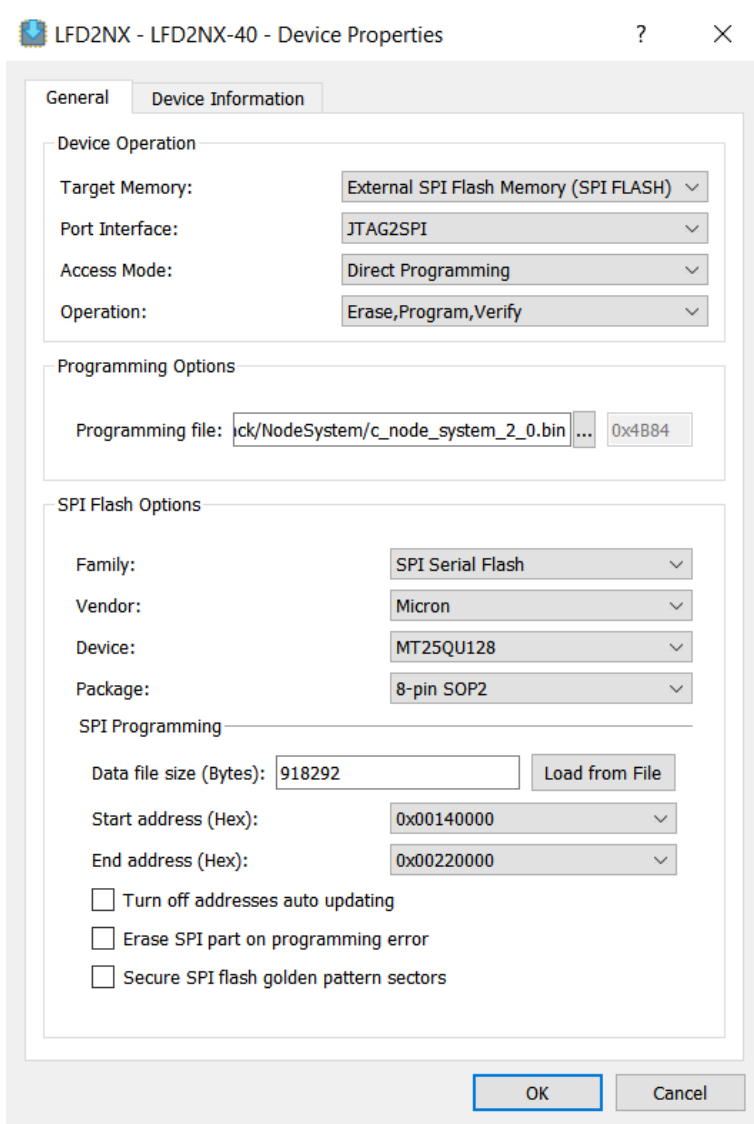

Figure B.16. Radiant Programmer - Binary Flashing Settings (Node System)
10. To program the firmware, select the options as shown in Figure B.16.